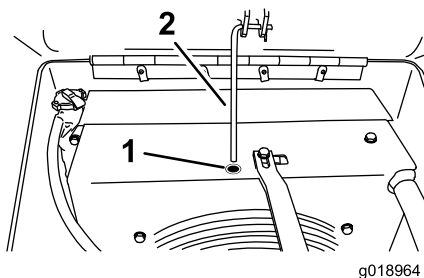

Figure 24
3. Release the hood support rod and place it into the support hole to hold the hood in an open position (Figure 24).